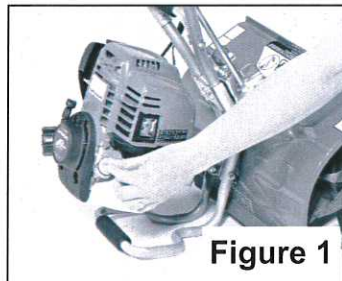

Figure 1
- It is important to position the Mantis® XP Tiller as shown in **Figure 1** so the oil will properly fill the crankcase. Failure to do so will cause engine damage.